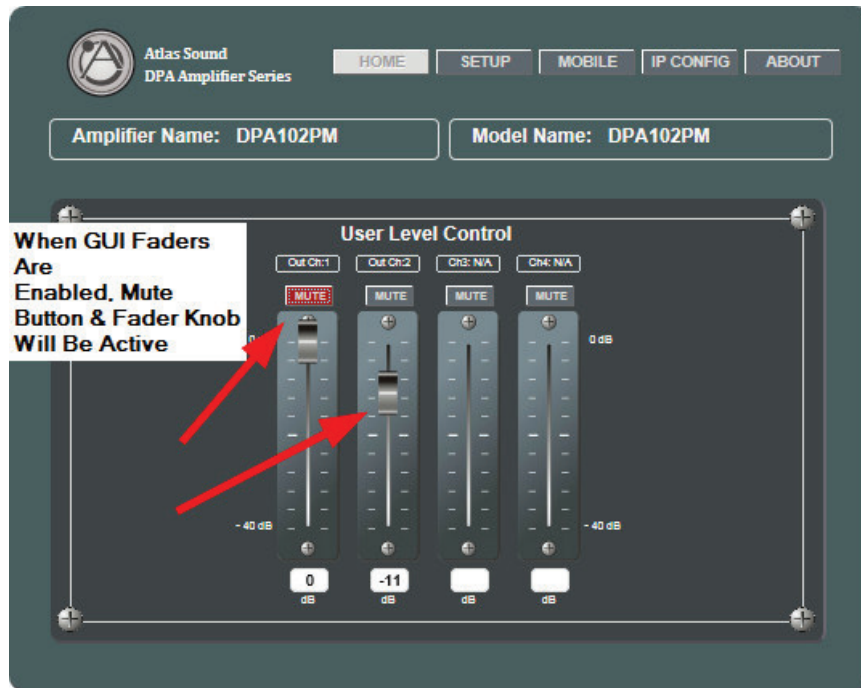

Figure 6
- 3. If the GUI looks like Figure 6. The GUI faders are enabled and the front Panel level controls are disabled.